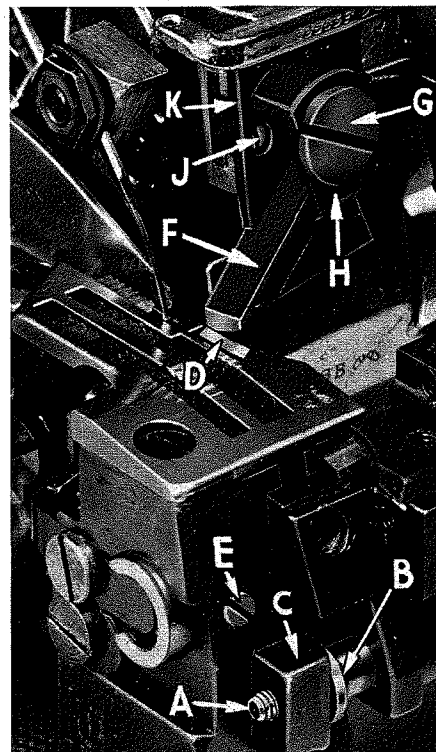

Fig. 11
Replace lower knife holder assembly. In replacing the lower knife holder assembly, tighten screw (A, Fig. 11) so that when the face of the flange on sleeve (B) seats against the throat plate mounting bracket (C) a free lateral motion of the lower knife and holder assembly is obtained when the knife is manually pressed at its upper corner. Lower knife (D) should be set with cutting edge flush with throat plate surface. Adjustments are made with hexagonal head screw which holds lower knife. Lower knife is spring pressed against upper knife, so no lateral adjustment is necessary when width of trim is changed.
Replace upper knife assembly. Clamp upper knife (F, Fig. 11) in position, setting screw (G) to hold clamp (H) in its most clockwise position against upper knife. At bottom of its stroke, front cutting edge of upper knife should extend not less than 1/64 inch below cutting edge of lower knife.